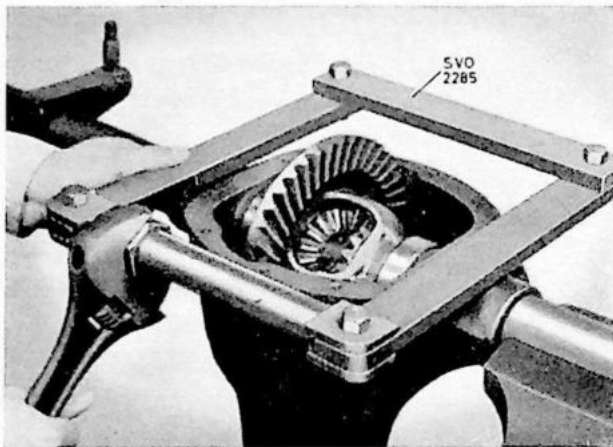

Fig. 23. Removing the differential.
5. Remove the inspection cover (42) from the rear axle housing.
7. Fit tool SVO 2285 in the holes in the rear axle housing as shown in fig. 23. Screw out the tensioning nut by hand as far as it will go and then turn it with a wrench until the differential carrier can be lifted out easily. Do not tighten the nut too much as otherwise the rear axle housing can be deformed. Lift out the differential carrier with ring gear.